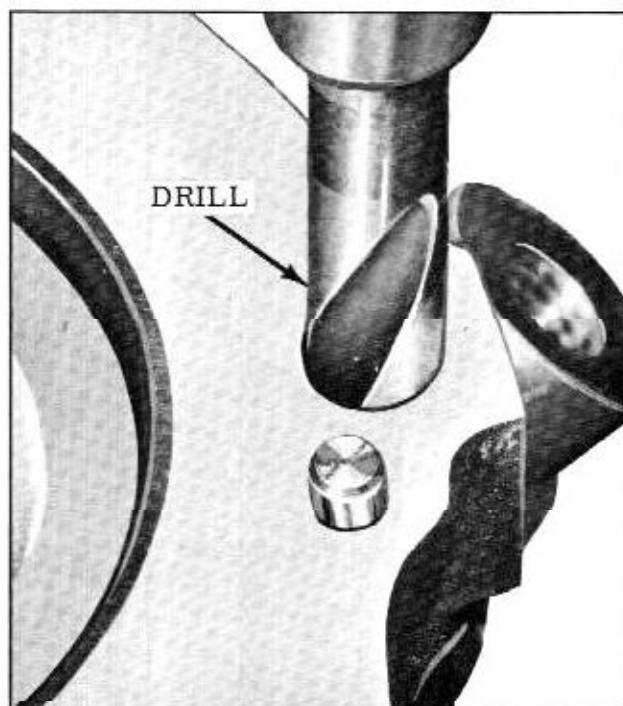

Fig. 8-51 Removing Damaged Threads
1. Drill out the old threads, bolt or stud, (if any), using the proper size drill as indicated on the instruction sheet in the Heli-Coil Kit. (Fig. 8-51)